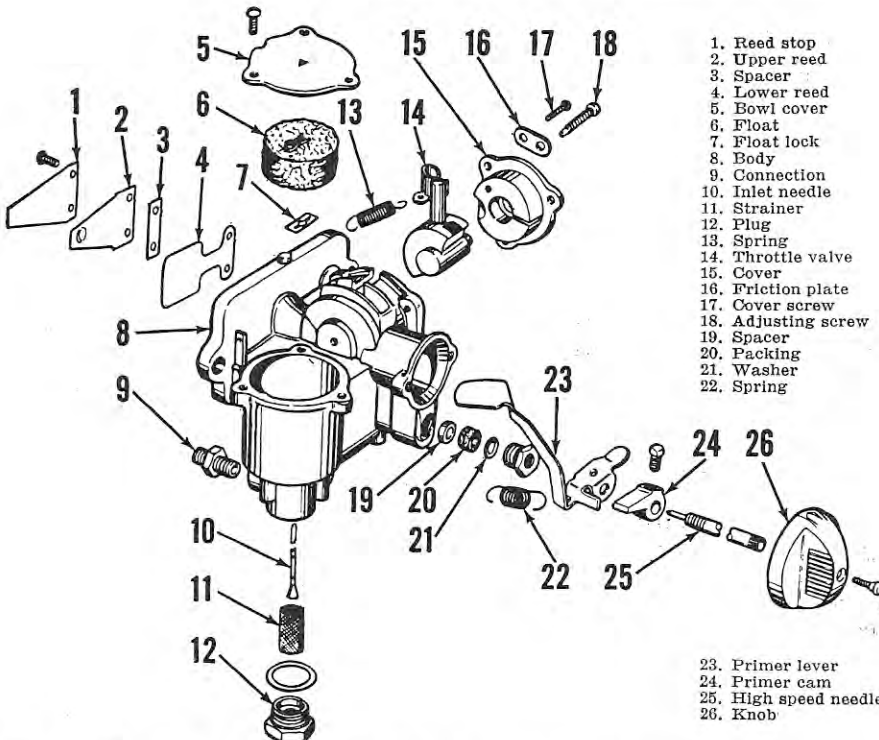

Fig. G1—Exploded view of the integral-float type carburetor used on all models. Float valve seat is machined in carburetor body.
CARBURETOR. The integral float type carburetor shown in Fig. G1 is used. The float valve seat is machined into bottom of carburetor body (8). If seat is damaged, carburetor body must be renewed. Float valve extends through float (6) and bowl cover (5), and is manually depressed by primer lever (23) to supply the starting fuel.
REED VALVES. The inlet reed valve unit (1 through 4—Fig. G1) is attached directly to carburetor body. Reed valve should be checked whenever the carburetor is removed for service. Reed valve (4) should seat very lightly against carburetor body